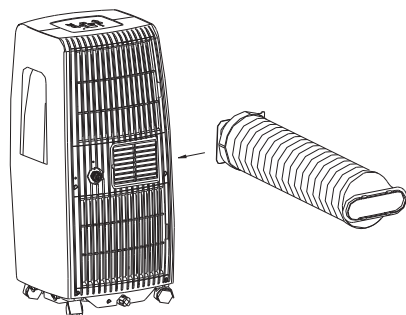

Fig.18
2. Push the Exhaust hose into the airoutlet opening along the arrow direction(See Fig.18).